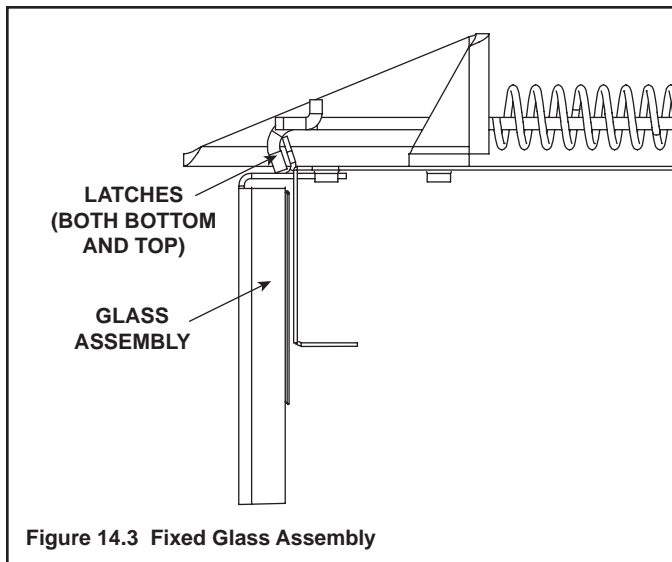

Figure 14.3 Fixed Glass Assembly
- Pull the four glass assembly latches out of the groove on the glass frame. Remove glass door from the appliance (see Figure 14.3).